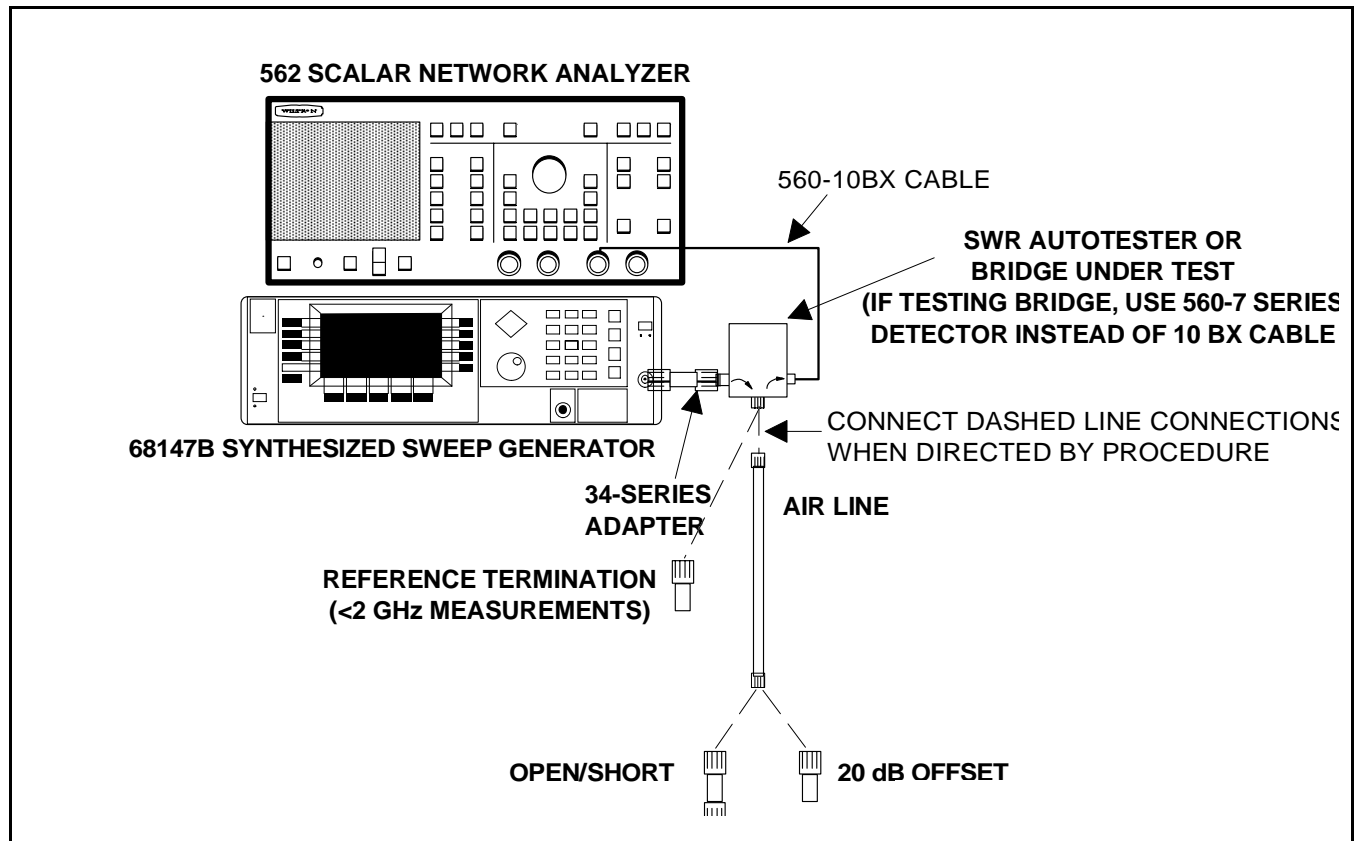

Figure 5. Test Equipment Setup for Directivity Measurement
1. Connect test setup as shown in Figure 5.
1. Set up equipment as shown in Figure 5.